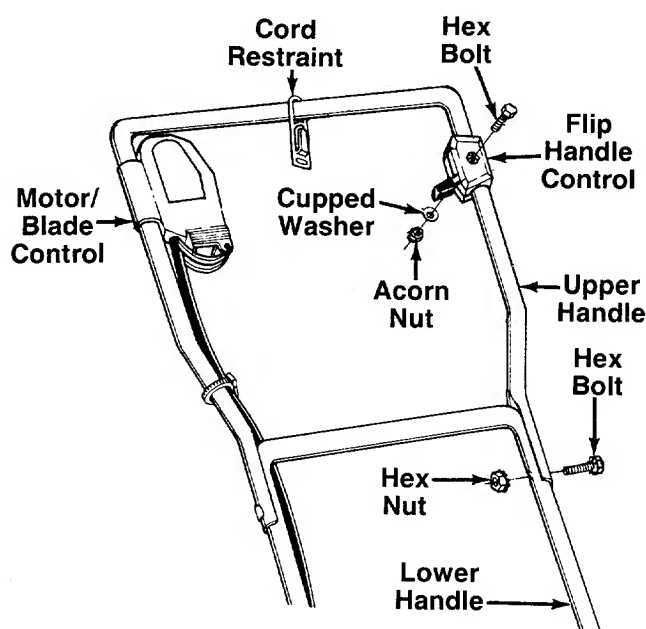

FIGURE 3.
1. Place the cord restraint onto the upper handle as shown in figure 3.